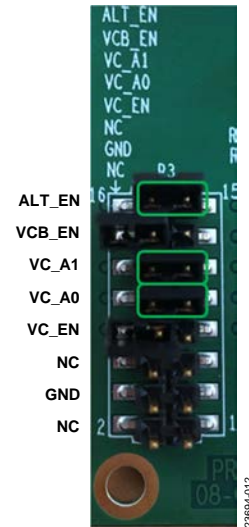

Figure 2. P3 Connector Initial Jumper Configuration with VC1 and VCB Enabled
4. Use the supplied shorting jumpers to configure the logic, as shown in Figure 2. In the configuration shown in Figure 2, the ADG1604 multiplexer, VC1 of the HMC8074, and the output buffer amplifier (VCB) are all enabled. When a jumper is disconnected, the corresponding signal is pulled up to the supply voltage ( $V_{CC}$ ). To reset a pin, connect the shorting jumper from the pin to the adjacent ground (GND). Figure 2 is annotated in green to indicate where a jumper is connected and shorted to ground.